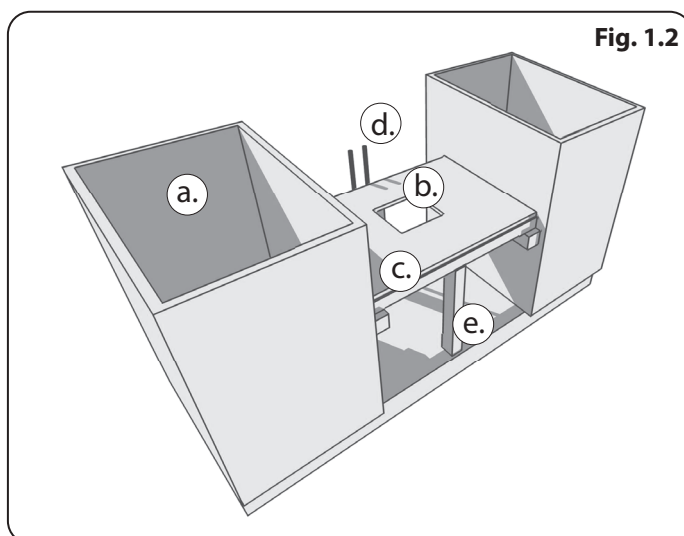

Fig. 1.2
8. All ceramic products should be supported under the reverse face with a substantial braced shelf similar (**Fig. 1.2**). The shelf should be designed to allow for small adjustments in height at each corner and so that it could be disassembled from the underside in the event that the sink is accidentally damaged.